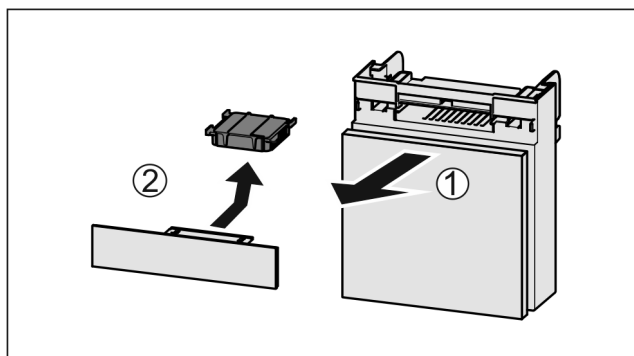

Fig. 134
- Pull out the compartment Fig. 134 (1).
- Remove the carbon filter Fig. 134 (2).